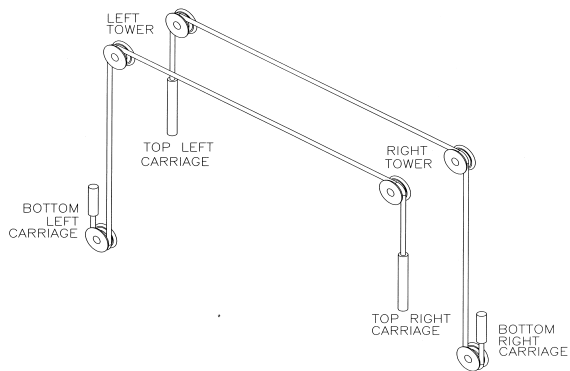

Figure 6a
2. Remove equalizing cables from the accessory kit box, and locate the (8) ½”-13UNC nuts in the hardware kit box.
3. Equalizing cables are to be routed as shown in **Fig. 6a**. Using the first cable, insert the short threaded stud through the 5/8”dia. hole at the bottom of the carriage (see Figure 11 Cable Mount “C”), and feed upwards until the stud comes through the top of the carriage. Place a ½”-13UNC nut at the center of the stud, and then **firmly tighten** a second nut up against it using two wrenches. Pull the cable back down through the bottom of the carriage.
6. Route the cable up through the tower, around the pulley at the top of the column, across the crossmember, around the pulley at the top of the other column and then down (**Fig 6a**). Insert the threaded stud into the 5/8” dia. mounting hole in the opposite carriage.